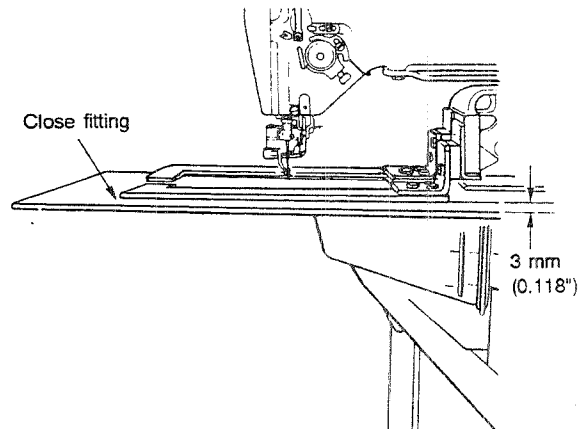

Fig. 4-2-2
<ol style="list-style-type: none"> 1) Set the operating air pressure to 0 kg/cm². Then, lower the feeding frame. 2) Loosen screw ① and nut ③. Turning adjustment screw ② clockwise will lower the front side of the feeding frame. 3) After the adjustment, securely tighten screw ① and nut ③. <p>(Caution)</p> <ol style="list-style-type: none"> 1. As reference of the adjustment, the rear end of the feeding frame should be approximately 3 mm (0.118") above the throat plate surface when the front end of the feeding frame meets the throat plate surface. (Fig. 4-2-2) 2. The degree of angle adjusting mechanism is provided for the feeding frames (right) and (left) respectively. 	<ul style="list-style-type: none"> ○ If the feeding frame is not sufficiently tilted, the work pressing force at the front side of the feeding frame may drop. ○ If the feeding frame is excessively tilted, the feeding frame may fail to go up.